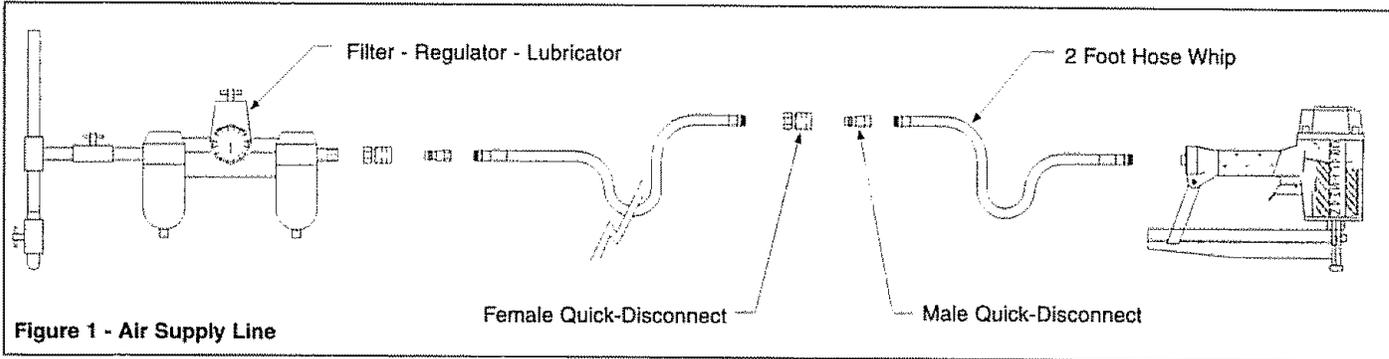

Figure 1 - Air Supply Line
Refer to Figures 1, 2, 3, 4 and 5.
Refer to Figure 1 (page 3)
- A filter-regulator-lubricator system is required and should be located as close to tool as possible (see Figure 1, page 3). A distance of less than 15 feet is recommended.